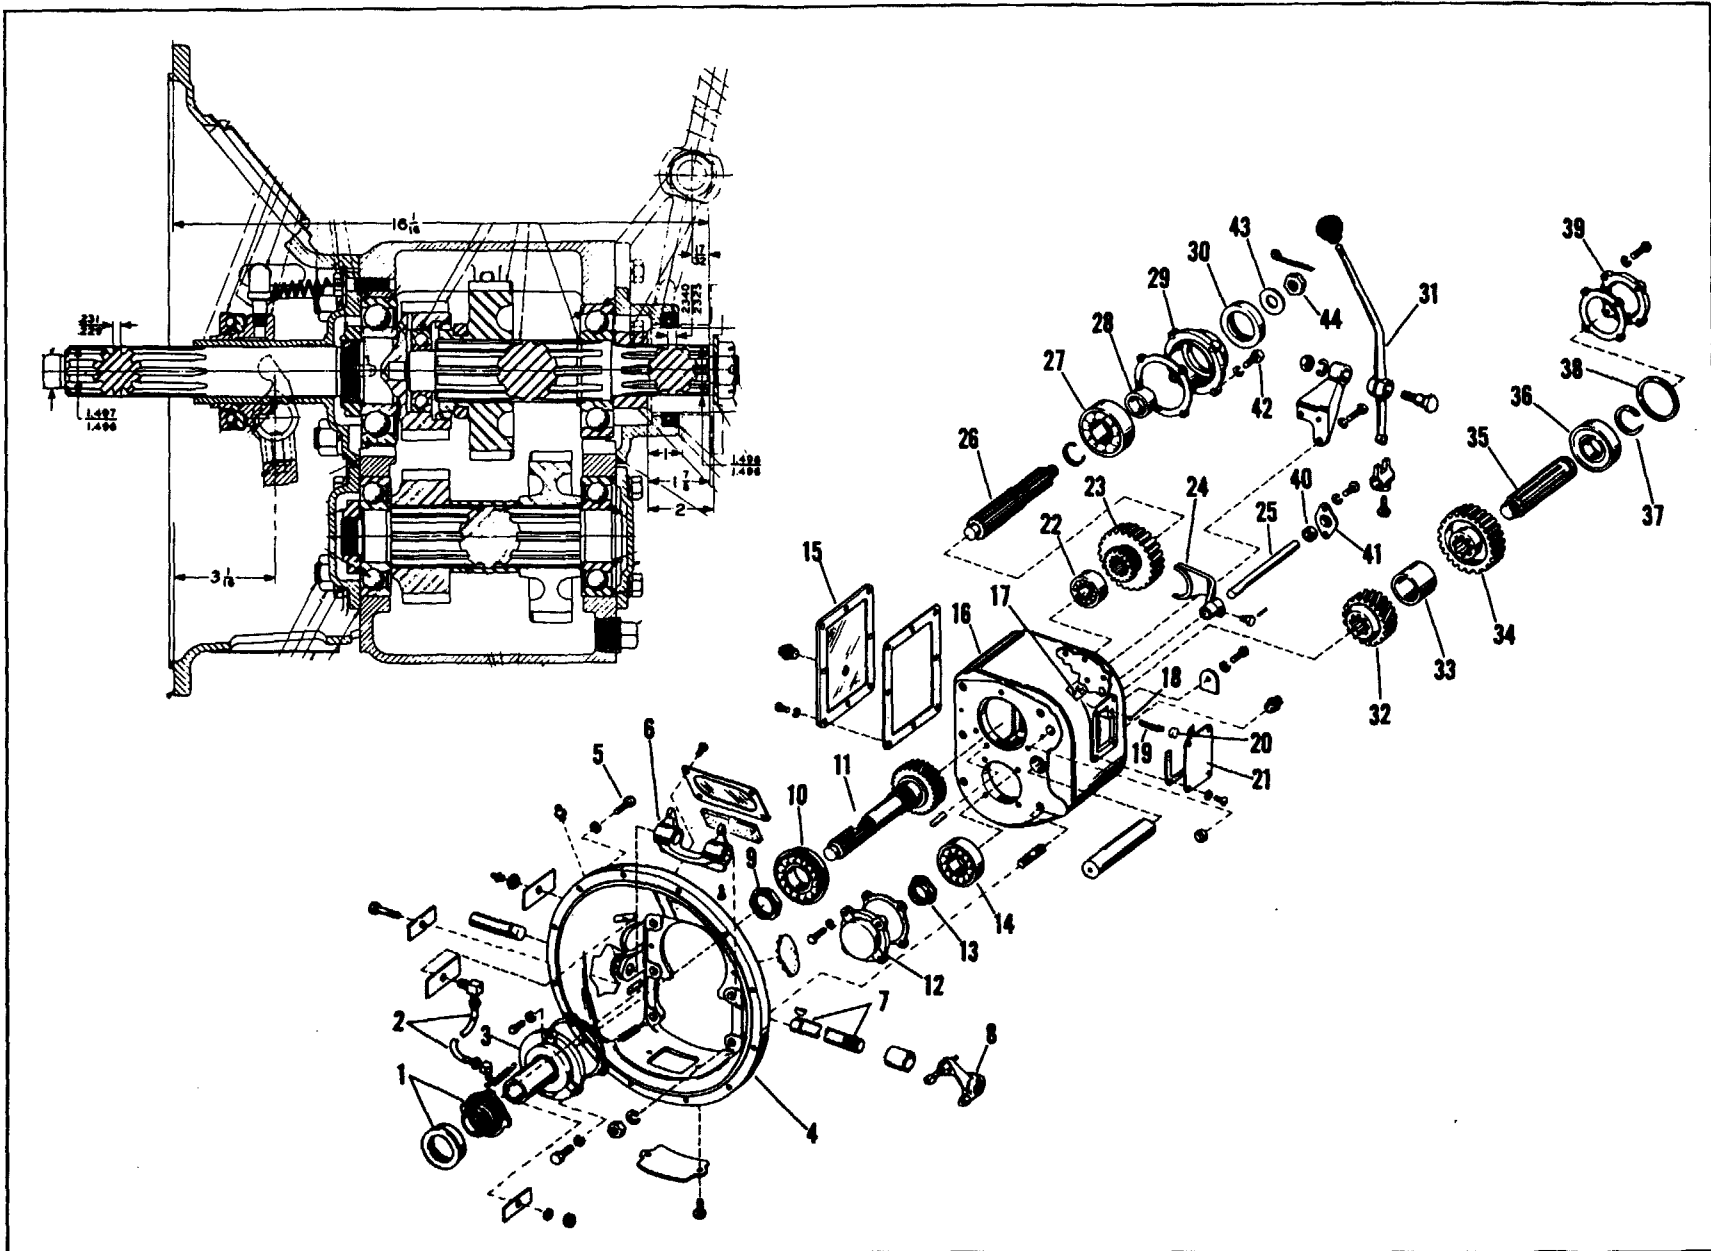

Figure 8. Sectional and Exploded View of Rotor Drive transmission
1. GENERAL. A "REX WORKS" two-speed transmission is used to transmit two speeds of drive to the rotor gear assembly, direct and one reduction ratio 1.63: 1. The model and serial number plate (item 17 on Fig. 8) is attached to the upper left section of the transmission housing. (Refer to this, when ordering parts).
a. Remove transmission end of universal joint assembly and clutch control lever. Drain oil from transmission. Remove gear shift lever (item 31).
b. Remove the 12 cap screws (item 5) attaching clutch housing to the flywheel housing.